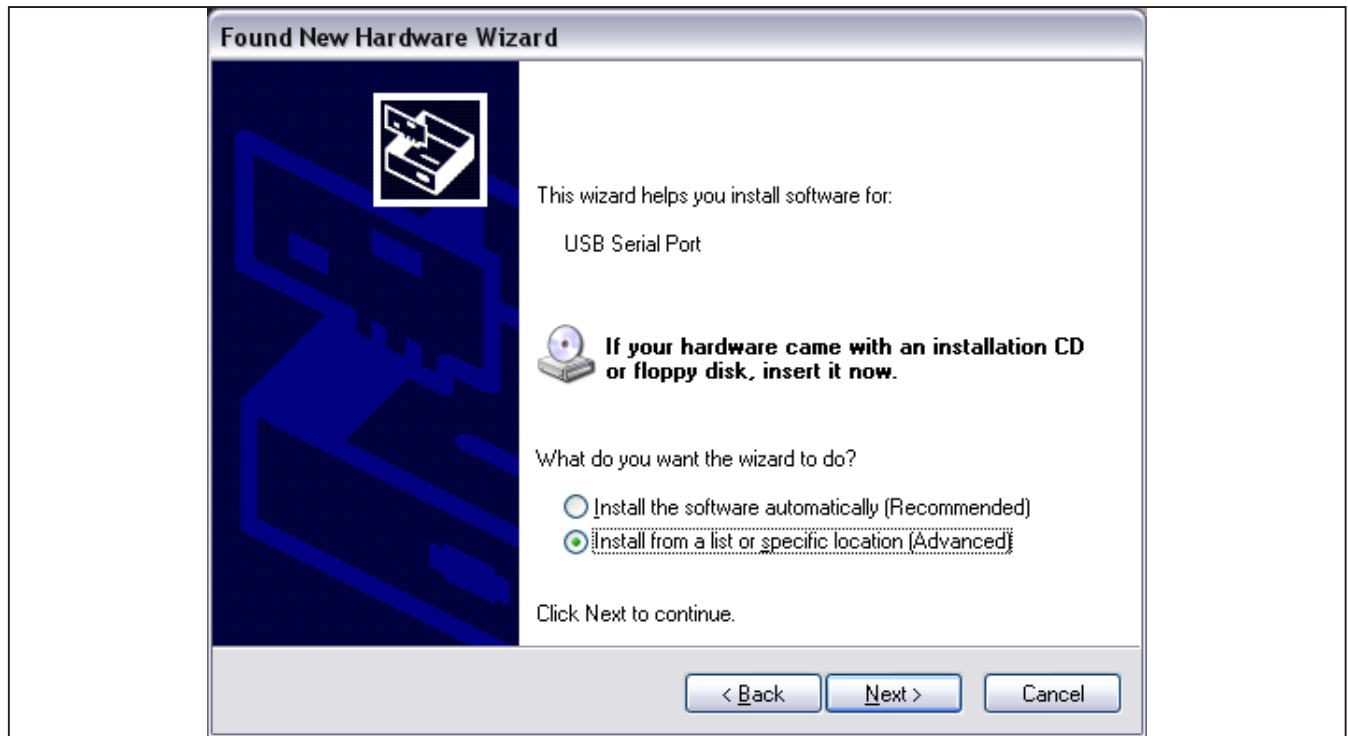

Figure 7. Secondary Driver Installation
- After the first driver installation completes, the **Found New Hardware Wizard** dialog appears a second time (Figure 7). Repeat the previous steps using the same settings and driver file location.